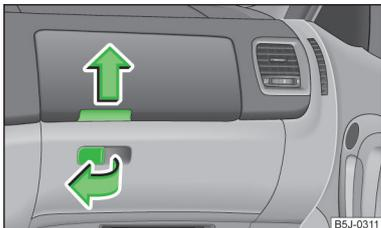

Fig. 83
- Pull the cover handle in the direction of the arrow » Fig. 83 and fold down the cover.